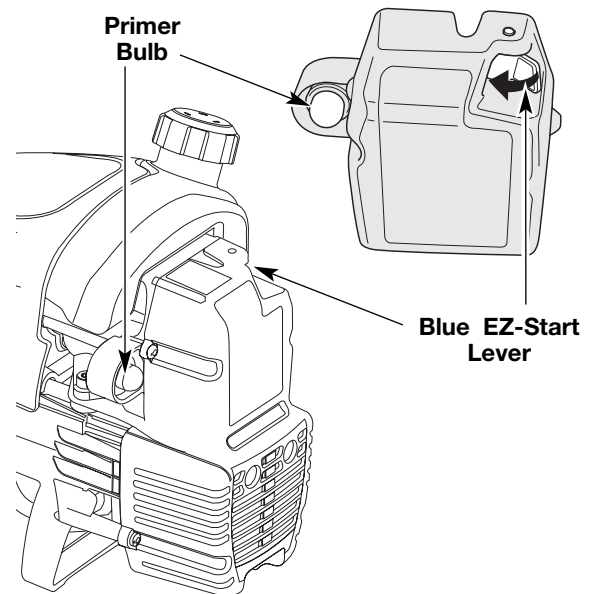

Fig. 7
**NOTE:** There is no need to turn the unit on. The On/Off Stop Control is in the ON (I) position at all times.
2. Fully press and release the primer bulb 10 times, slowly. Some amount of **fuel should be visible in the primer bulb** and fuel lines (Fig. 7). If you can't see fuel in the bulb, press and release the bulb as many times as it takes before you can see fuel in it.
3. **Push the blue EZ-Start™ lever towards the primer bulb** until it clicks and locks into place (Fig. 7).